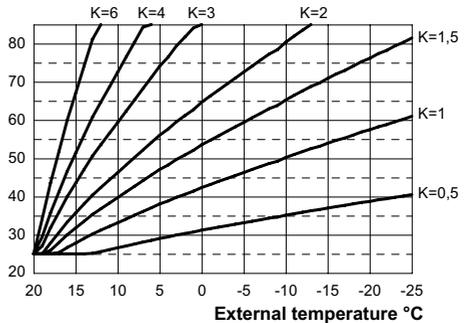

Fig. 7.19
If the boiler is **EQUIPPED** with the remote control (optional) refer to Fig. 7.19. In this case K setting must be done from the remote control.
The K coefficients is a parameter that increases or reduces the boiler flow temperature when the outside temperature changes. When installing the external probe it is necessary to set this parameter based on the efficiency of the heating plant in order to optimise the flow temperature (Fig. 7.19).
E.g. In order to have a flow temperature at the heating plant of 60°C with an external temperature of -5°C, set a K at 1.5 (sectioned line in Fig. 7.19).
- Using keys 17 or 18 it is possible to change the value of parameter 15 from a minimum of **01** to a maximum of **60** based on the selected bend of the K coefficient in Fig. 7.19 (the value read on the display corresponds to K coefficients decimal values). The writing **P15 - SEt** alternates on the display (Fig. 7.23).